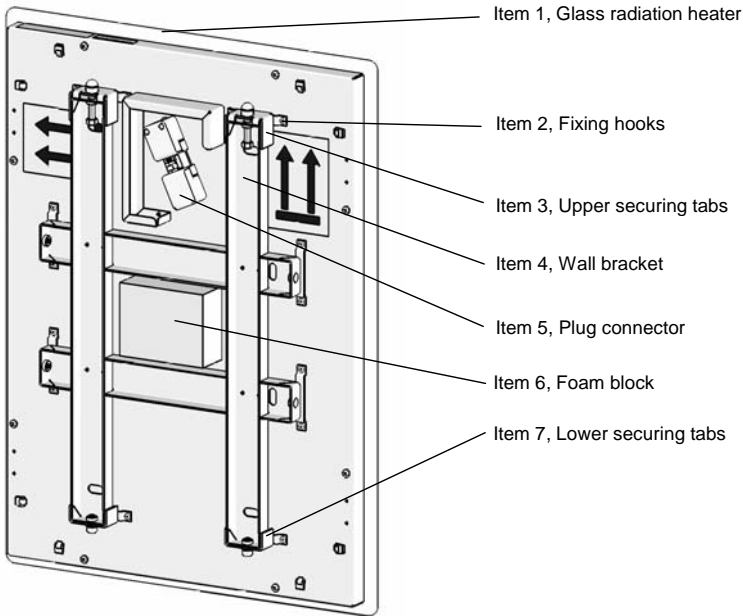

Fig.1: Inside of appliance housing
- Do not remove the foam bloc (Fig.1, item 6) at the rear side of the appliance! The block is not part of the packaging but keeps the device at a safe distance from the wall.
The wall bracket (Fig.1, item 4) is pre-fitted to the appliance. For installation, unscrew the wall bracket from the glass radiation heater. To do this, unscrew the two hexagon socket head screws (size 5) at the upper securing tabs (Fig.1, item 3) to the stop so that the tabs are pushed by the spring force from the hook (Fig.1, item 2). As the appliance is designed for vertical installation, the upper securing tabs are located on the side of the appliance at which you find the plug connector for the power line (Fig.1, item 5). After loosening the screws, lift the the wall bracket at the top by a few centimetres from the appliance and remove them by pulling them downwards.